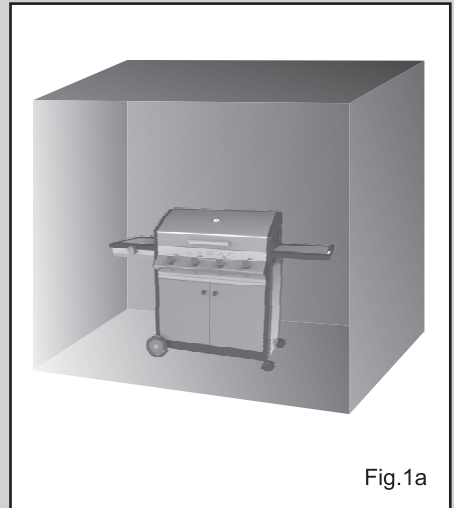

Fig.1a
- **Warning:** Since this barbecue has no restriction in the emission of unburned gas, this barbecue must be installed and/or used OUTDOORS or in an AMPLY VENTILATED AREA. Ensure this BBQ is installed in an AMPLY VENTILATED AREA, the area must have at least 25% of the surface(sum of the walls surface) area open.(Fig. 1a)